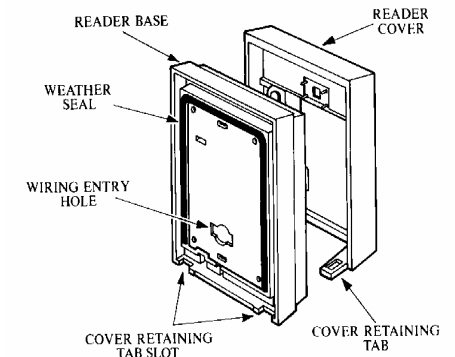

Figure 2
- For outdoor applications, use a suitable weather-proof back box, or handy box, and install the weather seal (provided) on the back of the readers' base by pushing it securely and evenly into the "U" shaped recess. See figure 2.